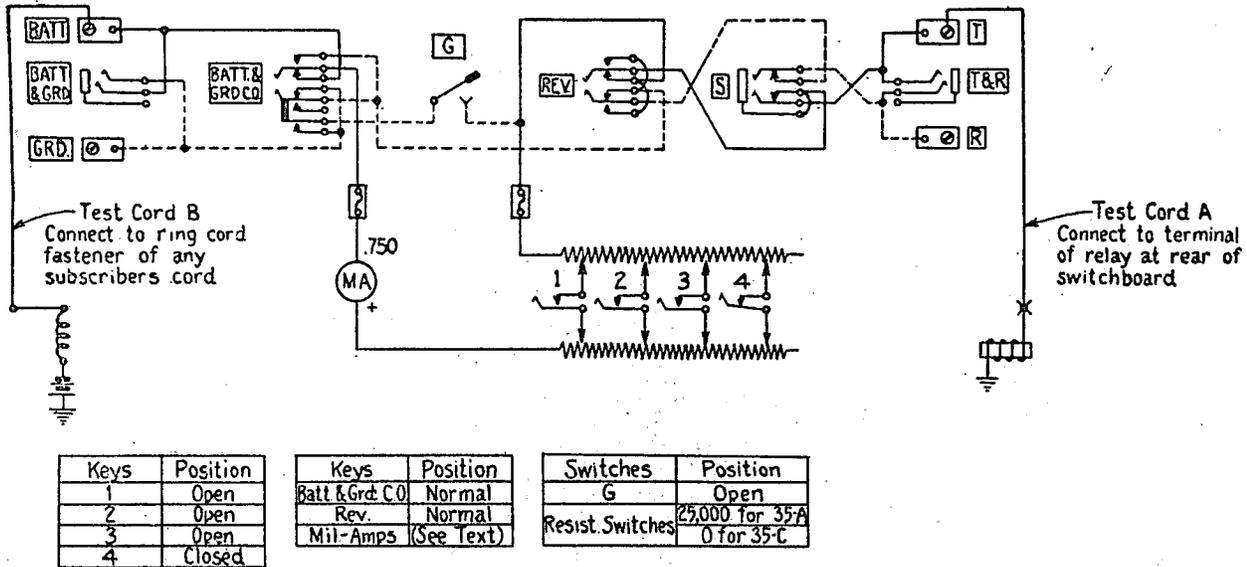

Fig. 2
- 3.4 Arrange the test set keys and switches as shown in Fig. 2, for relays having ground on the winding.